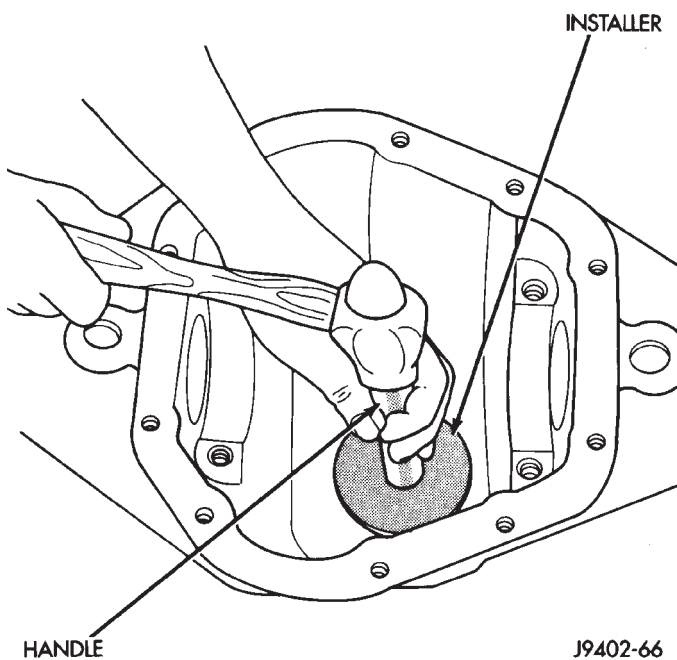

Fig. 41 Rear Pinion Bearing Cup Installation
(1) Place proper thickness depth shim in rear pinion bearing cup bore in the axle housing.
(2) Apply Mopar® Door Ease, or equivalent, stick lubricant to outside surface of rear pinion bearing cup. Install the bearing cup with Installer D-146 and Driver Handle C-4171 (Fig. 41). Verify cup is correctly seated.